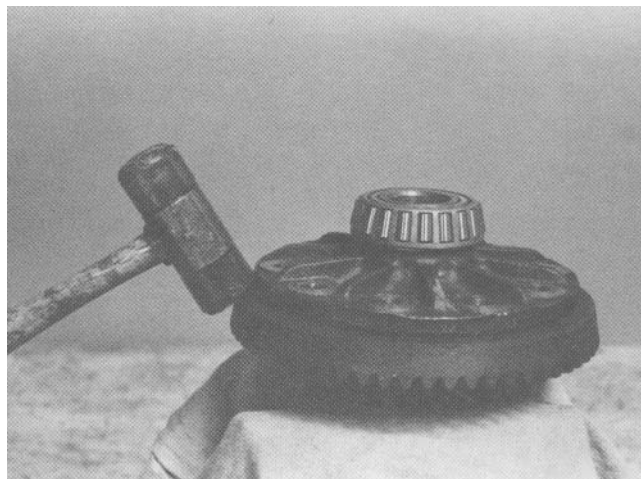

Figure 13
5. Remove the ring gear cap screws. Using a hard wooden block and a hammer, drive the ring gear off of the differential case. Be prepared to protect the ring gear when removing it from the differential case; this will avoid damage of the ring gear teeth (Fig. 13).